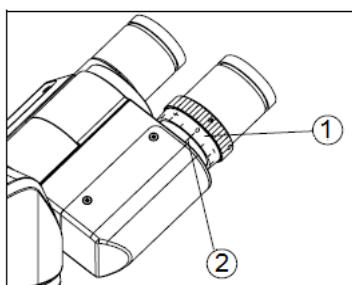

Fig. 1 Dioptre adjustment
- Then look through the left-hand eyepiece with your left eye. If the image is not well focussed, turn the dioptre adjustment ring (1) until it is (see Fig. 1).